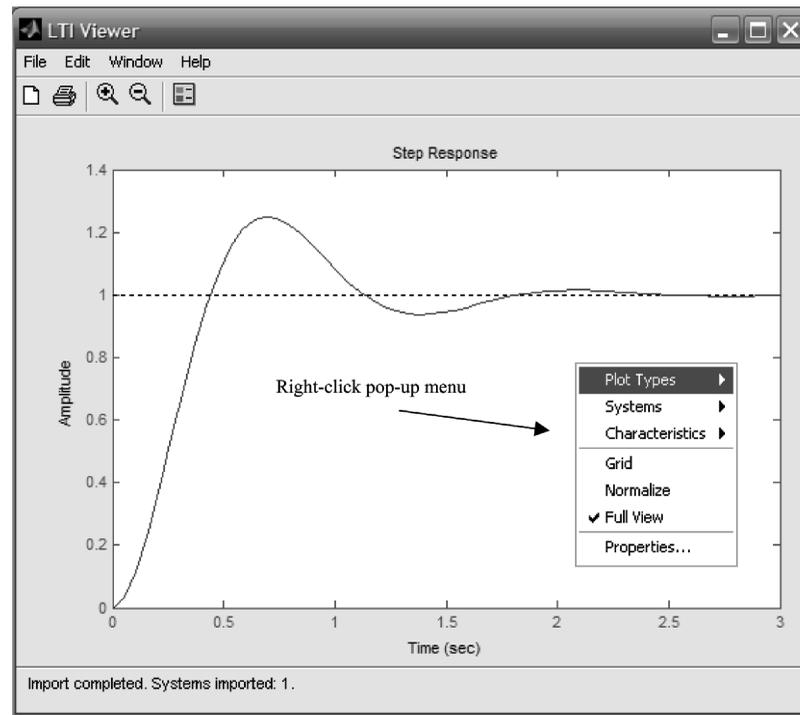

FIGURE E.1 LTI Viewer showing right click pop-up menu
- 1. Access the LTI Viewer** The LTI Viewer, shown in Figure E.1, may be accessed by typing `ltiview` in the **MATLAB Command Window** or by executing this command in an M-file.
4. **Select the LTI objects for the next response plot** Right-click anywhere in the LTI Viewer plot area to produce a pop-up menu as shown in Figure E.1. Under **Systems**, select or deselect the objects whose plots you want or do not want to show in the LTI Viewer. More than one LTI transfer function may be selected.
5. **Select the plot type** Right-click anywhere in the LTI Viewer plot area to produce a pop-up menu as shown in Figure E.1. Under **Plot Types**, select the type of plot you want to show in the LTI Viewer.
6. **Select the characteristics** Right-click anywhere in the LTI Viewer plot area to produce a pop-up menu as shown in Figure E.1. Under **Characteristics**, select the characteristics of the plot you want displayed. More than one characteristic may be selected. For each characteristic chosen, a point will be placed on the plot at the appropriate location.